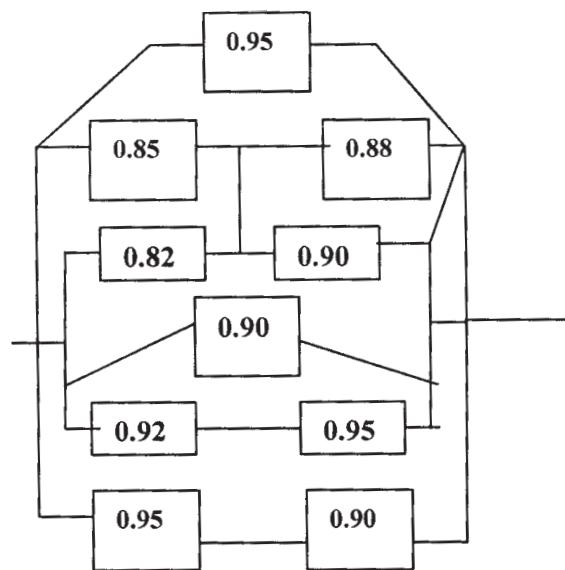

Fig. 4
- Q4)** a) Fig.4 shows a system configuration with reliability of elements given in blocks. The find the system reliability. [8]